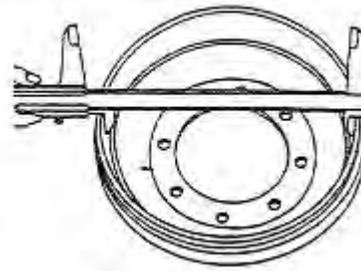

figure 2-24
(5) Eye-measure if there is any damage on inner surface of brake drum, if abnormal, amend by lapping. If exceed amendment limit, please replace. Standard: 314mm; limit: 316mm. see figure 2-24